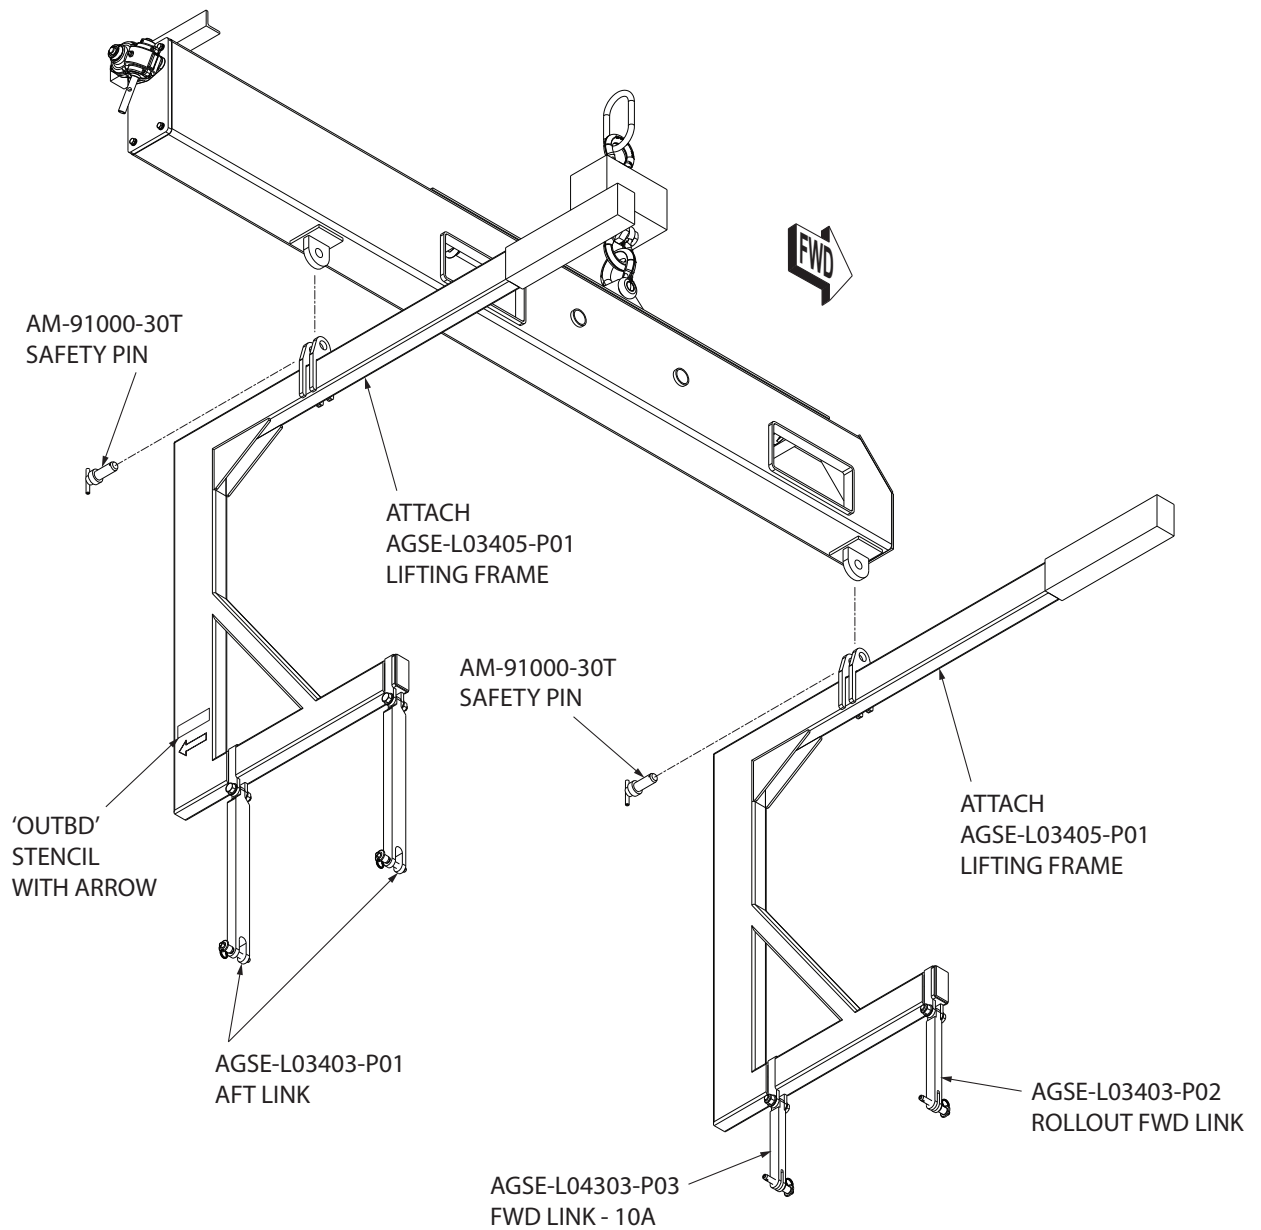
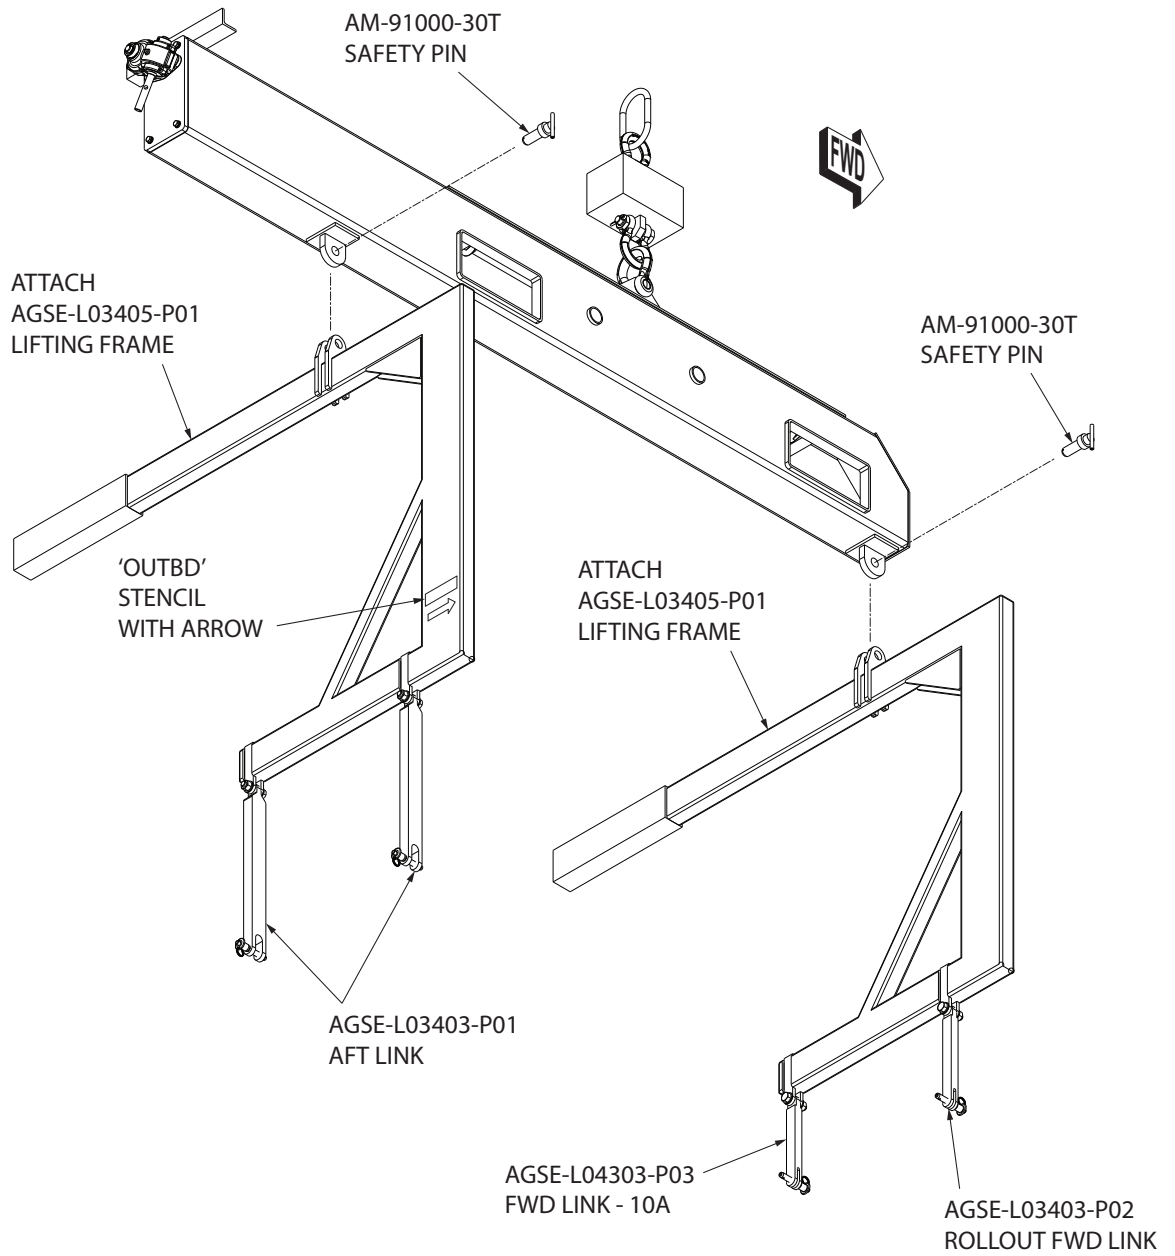

Figure 5.1-1 LH Configuration
Figure 5.1-2 RH Configuration
## 5.1 Deployment and Usage (Illustration Figure 5.1-1)
**For LH configuration, see Illustration Figure 5.1.1. For RH configuration, see Illustration Figure 5.1-2.**